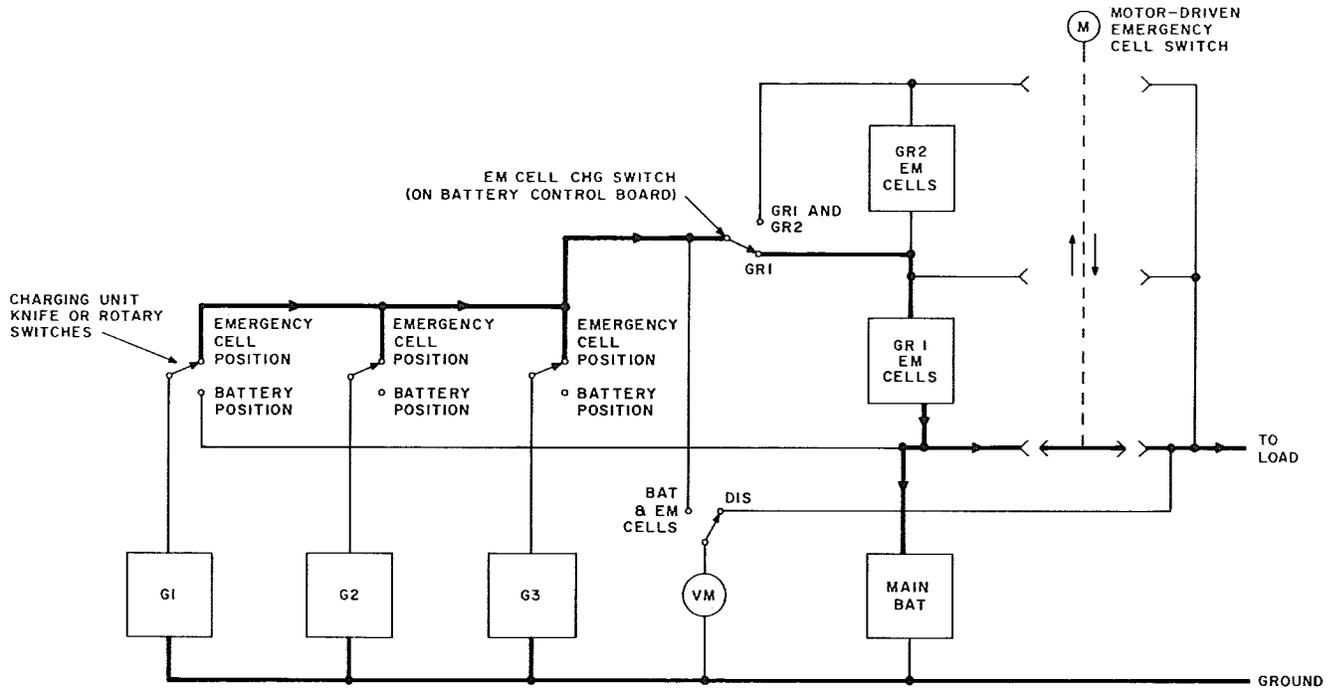

Fig. 5—Normal Load—G1, G2, and G3 Supplying Load and Recharging Main Battery and GR1 EM Cells
1.002 This addendum is issued to correct an error in paragraph 1.04 and to correct Fig. 5 and 6.
(a) Fig. 5—revised.